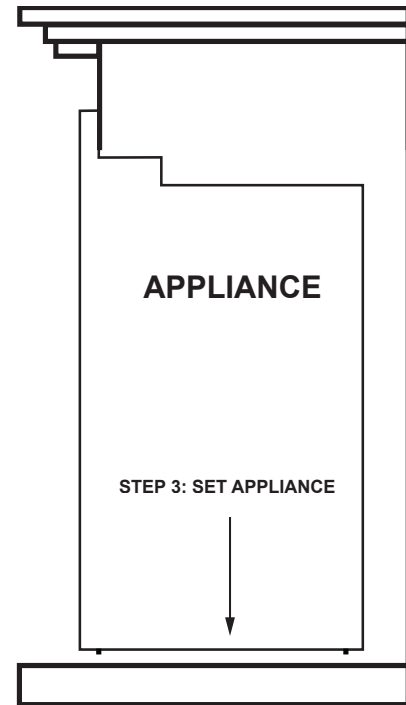

Fig. 2
- C. Set the appliance down and into place and remove the cloth (**Fig. 2**).